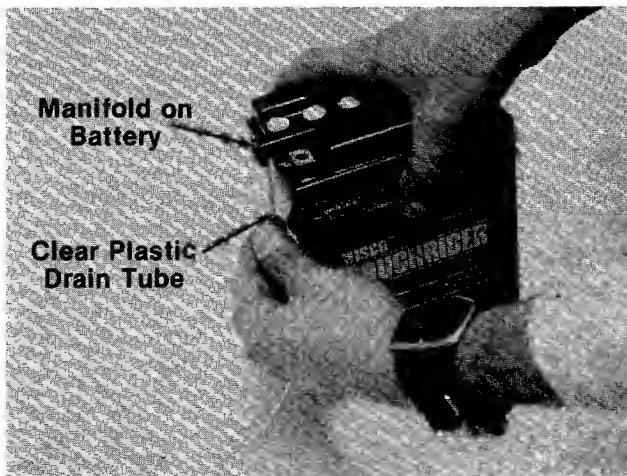

FIGURE 13.
3. Place one end of clear plastic drain tube on manifold of battery. See figure 13.